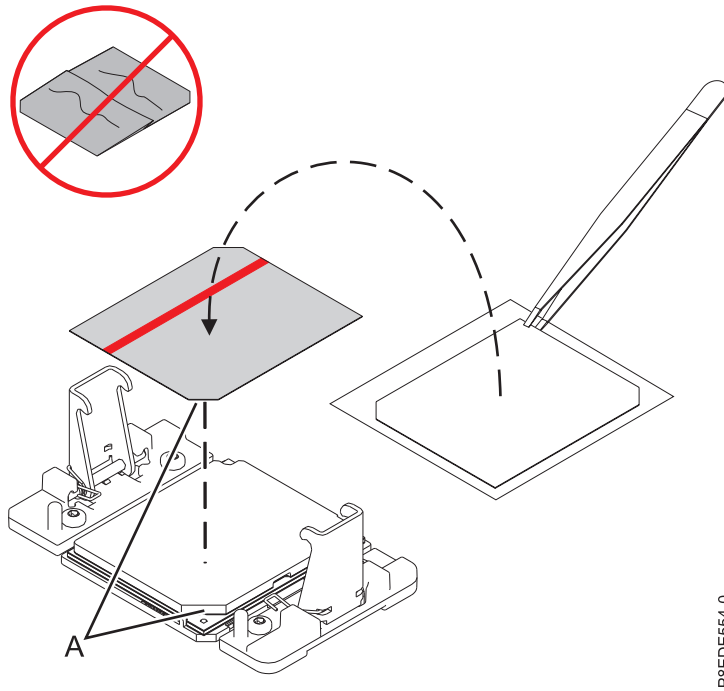

Figure 40. Replacing the thermal interface material (TIM)
- d. Using the tweezers, remove the TIM from the carrier strip and center it onto the system processor module with the red stripe facing up. Align the beveled edges of the TIM and the system processor module (**A**), as shown in Figure 40 on page 39.